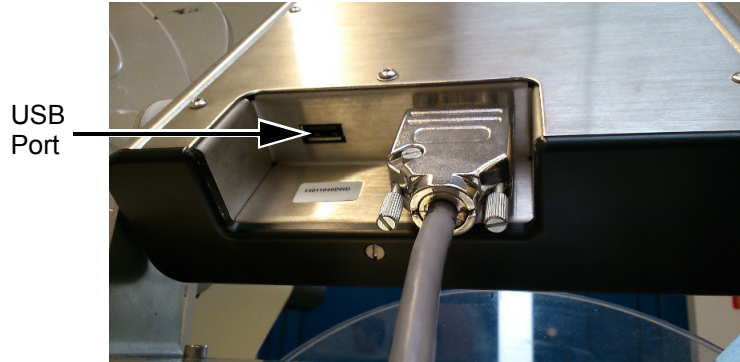

Figure 6-16: USB Port
- 11 Insert the USB memory device into the USB port of the controller (see Figure 6-16).